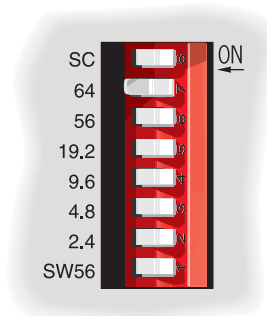

Figure 4. Front Panel DIP Switch – Rate Selection
The front panel DIP Switch (see Figure 4) is used to set the data rate. Pushing the switch to the left (**ON**) enables the function. The Secondary Channel (SC) cannot be selected if circuit is SW56 or 64 kbps. Only one data rate can be selected.